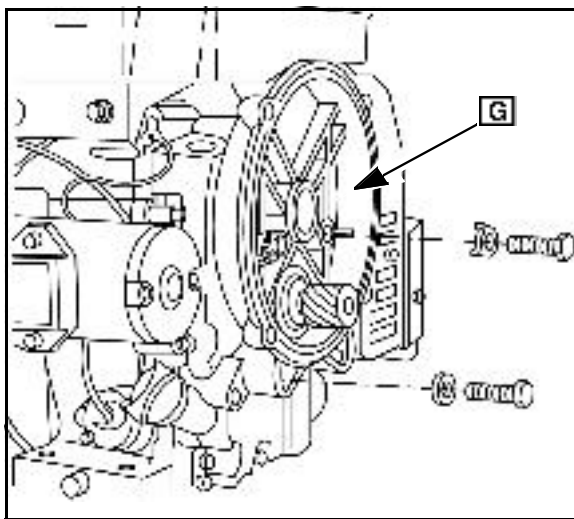

Fig. 24
6. Remove four screws attaching housing ([G] Fig. 24) to cylinder. Bend ears on locking plates away from heads of two screws inside housing.